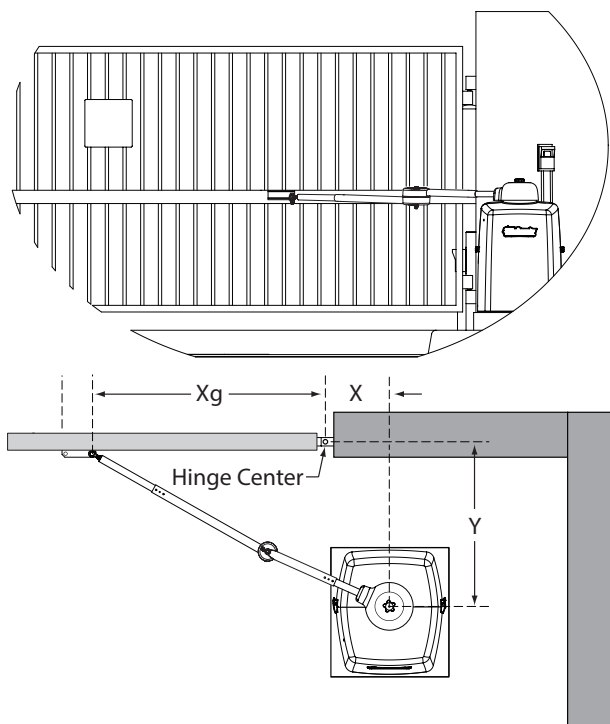

Figure 6. Installing the Gate Bracket
2. Determine the proper position of the gate bracket. Use Figure 6 and Table 2 for reference.